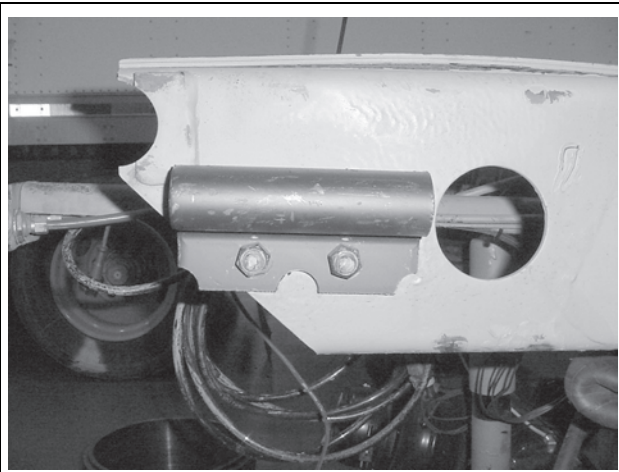
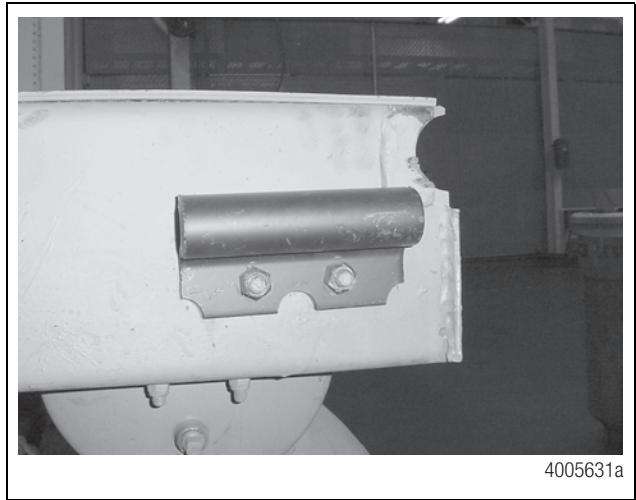

Figure 31
Figure 32
18. Replace the hold-down clips with the heavy-duty version. Refer to Figure 31 and Figure 32.